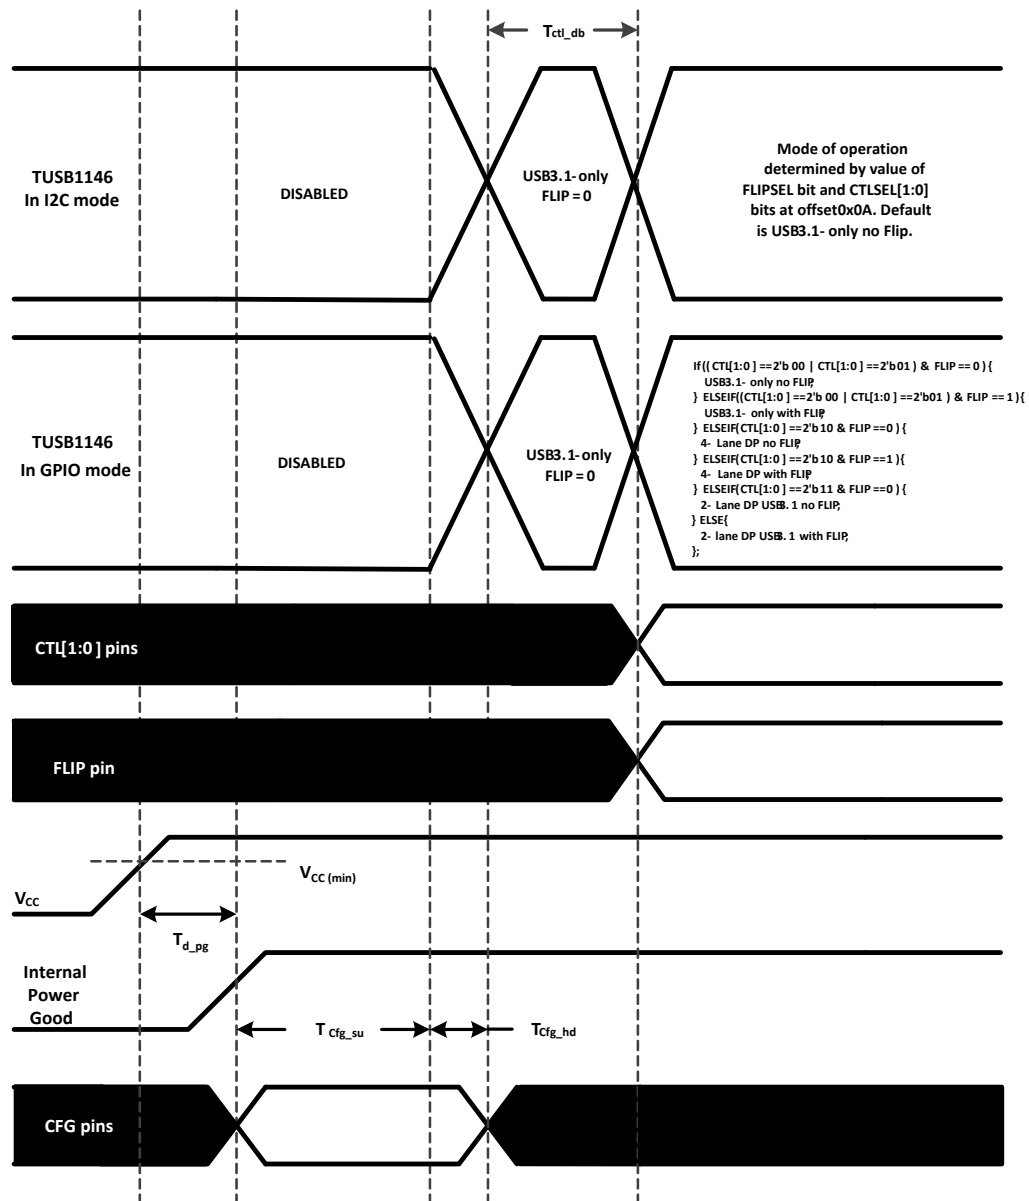

Figure 27. Power-On Timing
| t D_PG               | V CC(min) to internal Power Good asserted high                         | Refer to <a href="#">Figure 27</a>                                                                          |     |     | 25  | ms   |
| t CFG_SU             | CFG (1) pins setup (2)                                      | Refer to <a href="#">Figure 27</a>                                                                          | 250 |     |     | μs   |
| t CFG_HD             | CFG (1) pins hold                                                      | Refer to <a href="#">Figure 27</a>                                                                          | 10  |     |     | μs   |
| t CTL_DB             | CTL[1:0] and FLIP pin debounce                                                    | Refer to <a href="#">Figure 27</a>                                                                          |     |     | 16  | ms   |